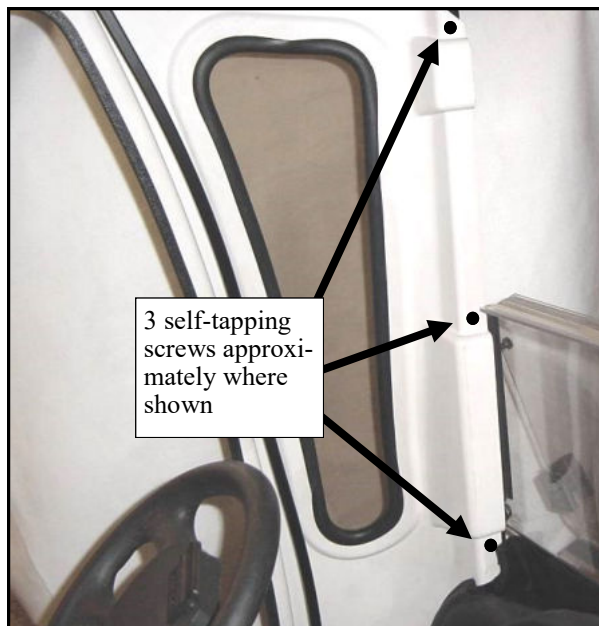

Fig. 6.1 (inside view of driver's side)
6.1 Per fig. 6.1, secure the plastic front panels to the vertical roof support tubing using three (3) self-drilling/self-tapping screws on the driver's side. Note: the black circles in the photo represent the screws. Note: no pilot hole required. An electric drill with a Phillips head bit can be used. Do not over-tighten. Over-tightening can cause the threads to strip out of the thin walled tubing. Repeat for passenger's side.